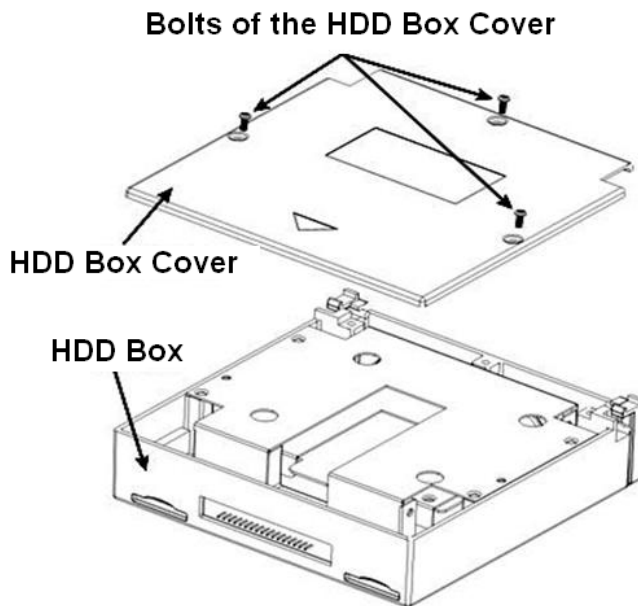

Figure 2-15
- 1) The HDD box and the parts are shown as below. See Figure 2-15. Please loosen the bolts of the HDD box and then remove the HDD box.